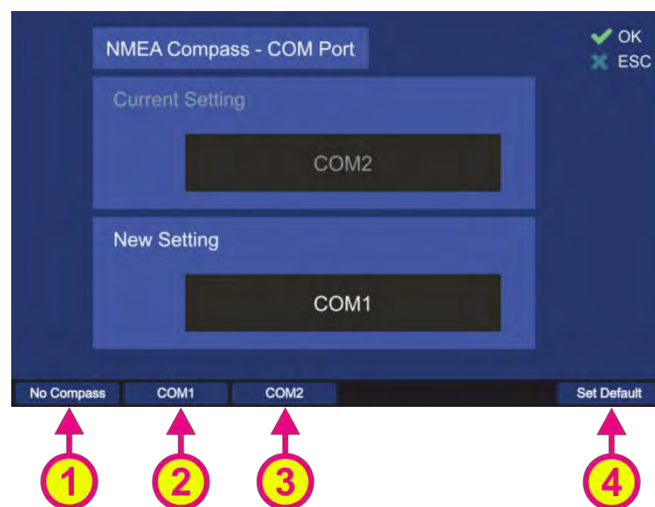

Fig. 153 Compass connector setting
- Pressing the hotkey “Edit Value” the following sub-dialog will be opened (s. Fig. 153).
- Choose the new setting using one of the hotkeys (s. Fig. 153), which will then appear in the “New Setting” field. Selecting “COM1” or “COM2” (s. Fig. 153, positions 2 and 3) configures the corresponding communication port as the input port for the external compass data. By choosing “No compass” setting (s. Fig. 153, position 1), the external compass data will be ignored. “No compass” has to be selected, if no external compass is connected, in order to avoid displaying the corresponding warning on the “Bearing” page (“No Compass” warning).